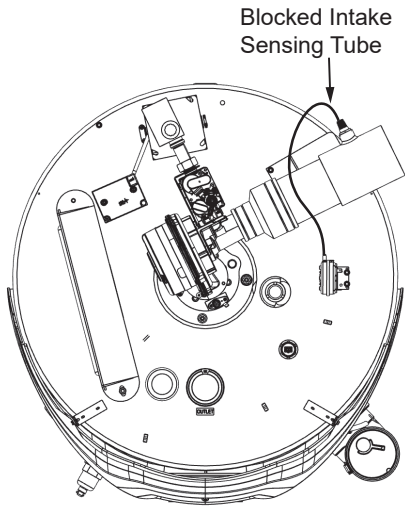

Figure 27. Blocked Intake Air Switch Sensing Tube
2. Disconnect the blocked intake-air switch sensing tube. See *Figure 27* for the location.